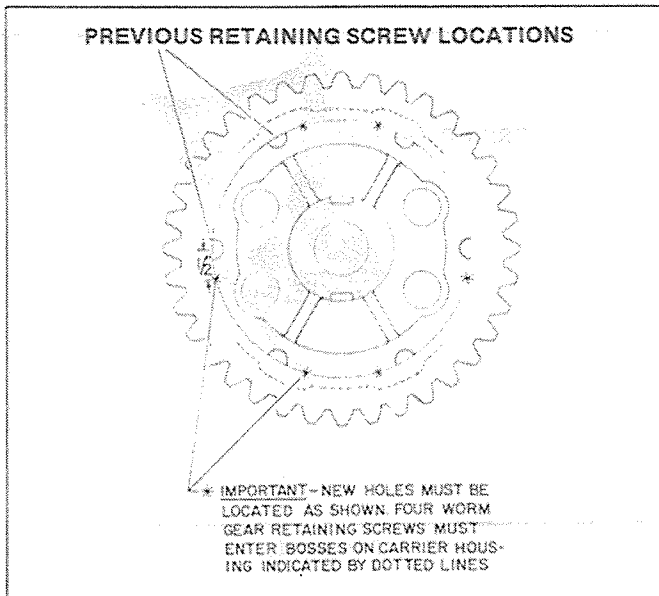

Figure 11
3. Center punch six marks on the line that divides the worm gear from the carrier housing. See Figure 11 for location of center punch marks.